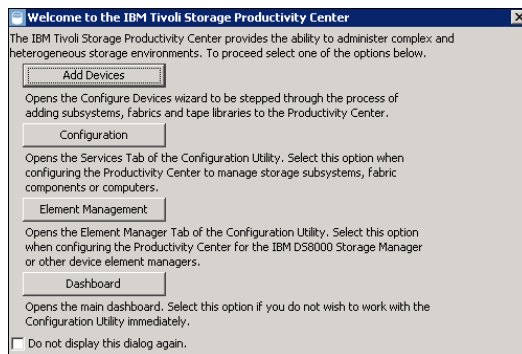

Figure 12-40 Welcome window
2. The welcome window opens (Figure 12-40). Click **Add Devices** to connect to a system.